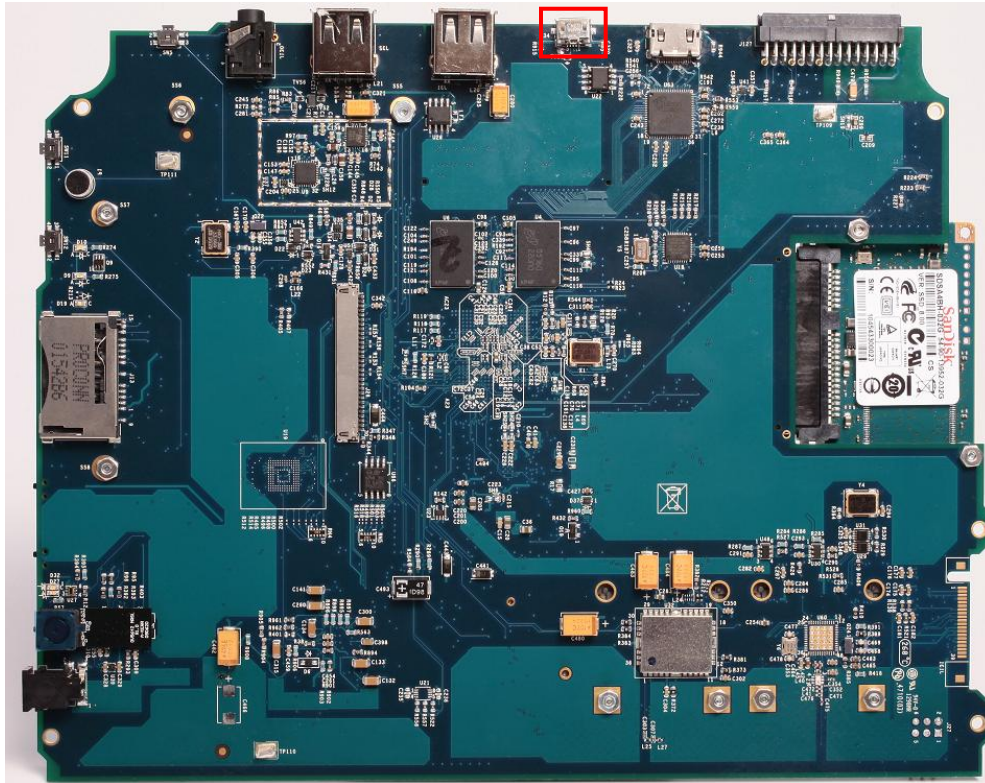

Figure 4-5. Micro-B USB Connector
The MCIMX53SMD board has one micro-B USB device connector that can be used to connect the MCIMX53SMD board to a USB Host computer. The micro-B connector is connected to the high-speed (HS) USB 2.0 OTG module of the i.MX53 processor. When a 5V supply is provided to the micro-B connector (from the USB Host), then, the i.MX53 processor will configure the OTG module for device mode. This will prevent the lower USB Host port from operating correctly. The 5V power provided by the attached USB Host is only used by the i.MX53 processor for sensing that the host is present. The MCIMX53SMD board will not draw power from the connected USB Host and will not operate without a 5V DC power source or charged Li-ION battery. The micro-B connector is keyed and will not accept a micro-A plug from a cable. A micro-B to USB-A cable is supplied as part of the MCIMX53SMD board kit and can be inserted into the micro-B USB connector at the point shown in **Figure 4-5**.